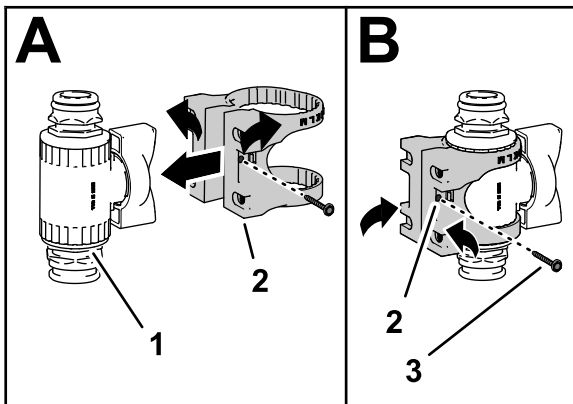

**Figure 18**
2. Assemble the red wing handle to the control valve as shown in Figure 18.